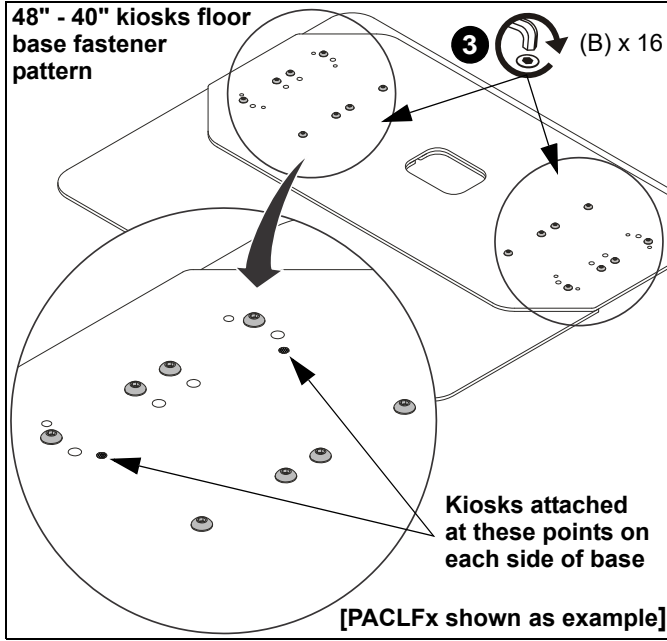
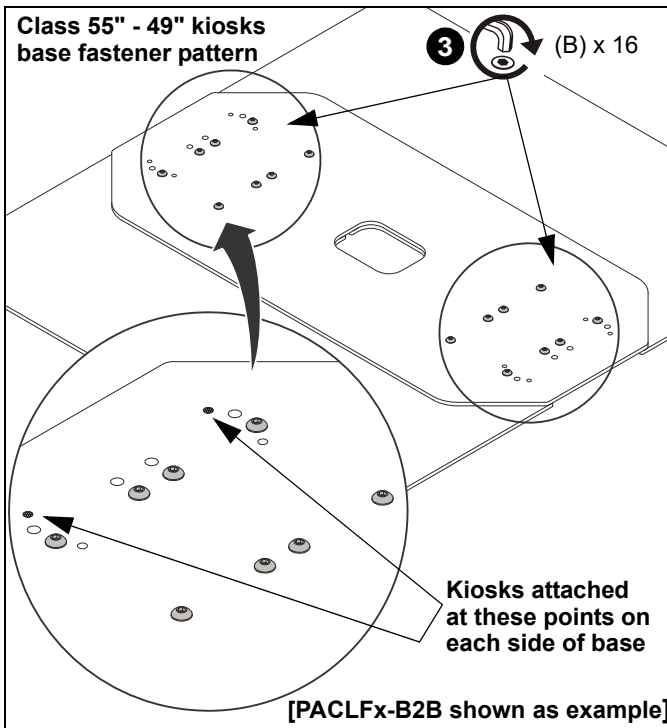

Figure 4
Figure 5
**IMPORTANT !** : When assembling the base, the fasteners are placed in different holes depending upon whether you are using the PACLFx / PACLFx-B2B for a 48" - 40" kiosk or a 55" - 49" kiosk. (See Figure 4) and (See Figure 5)
**IMPORTANT ! :** (See Figure 4) for 48" - 40" kiosks, and (See Figure 5) for 55" - 49" kiosks.
1. Place kiosk onto base, lining up mounting holes on kiosk and base. (See Figure 4) and (See Figure 5)